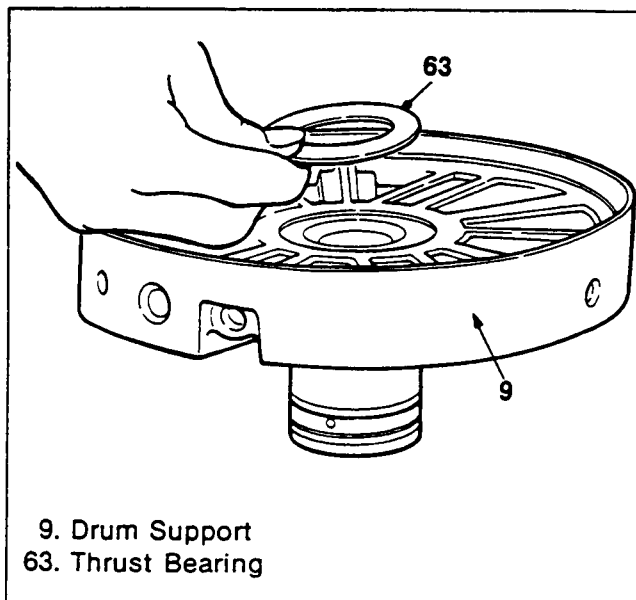

Figure 22. Thrust Bearing Removal
5. Remove the thrust bearing from the drum support (figure 22).